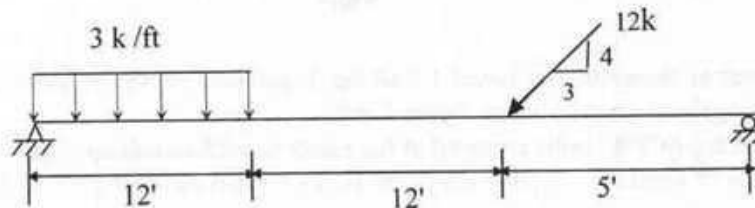

Fig:1
1. Using section method, draw axial force, shear force and bending moment diagrams for the beam as loaded in Fig. 1.